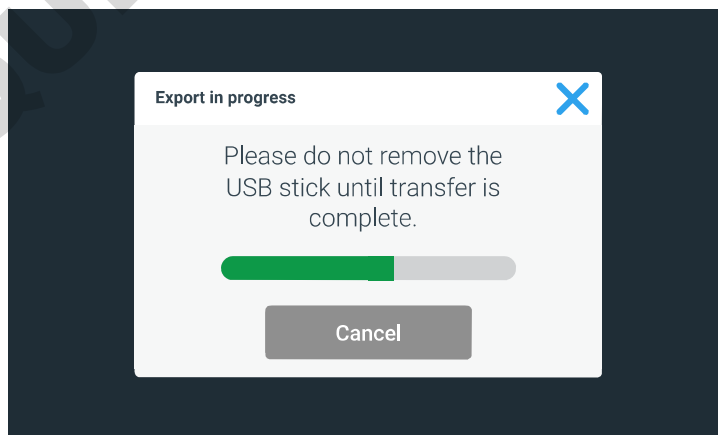

Figure 114 “Export in progress” Screen
- a. If you have inserted a USB drive that is not writable or readable, the pop-up window shown in Figure 114 appears, stating the drive is not readable and asking you to insert a different USB drive.
If you have inserted a valid USB drive, the export will start immediately. The pop-up window shown in Figure 114 appears, cautioning you not to remove the USB drive until the transfer is complete.